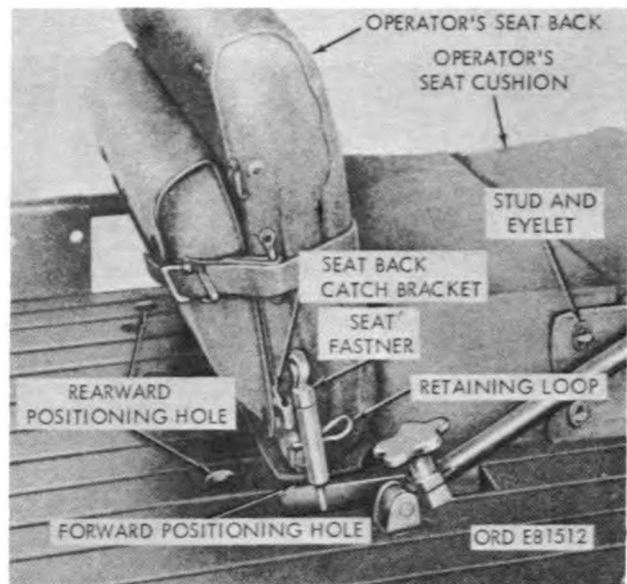

Figure 2-18. Location of operator's seat fastener and positioning holes.
Step No. 1. Starting Engine and Seat Adjustment. Start engine as directed in paragraph 2-9 and while engine is warming up, adjust the operator's seat (fig. 2-18) to forward or rearward hole location provided in the platform (all models except M274A3 which is not adjustable).
c. *Removing Seat and Seat Back.* Unhook operator's seat back fastener (fig. 2-18) from retaining loop or bracket. Lift up on seat back frame and remove from locating holes in platform. Remove seat cushion. Separate front half